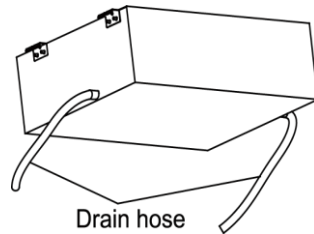
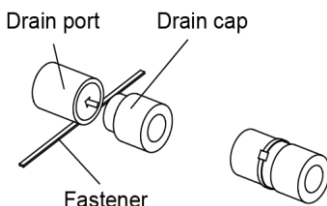

Fig. 4.22
Fig. 4.24
- (5). Use a suitable drain hose, and see Table 3.3 for its size.
- (6). There is a drain port on both the left and right sides. Select the drain port to match the local conditions (Fig. 4.22).
- (7). When the unit is shipped from the factory, the drain port is defaulted to be the
- (8). When using the drain port on the right side of the unit, reinstall the drain cap to the left side drain port (Fig. 4.24).